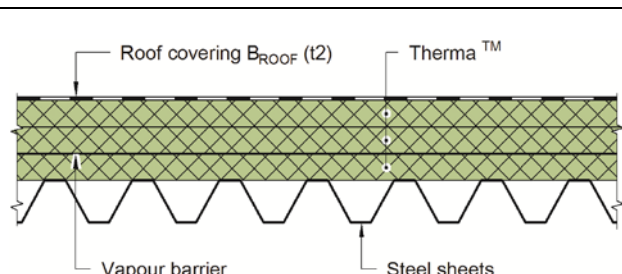
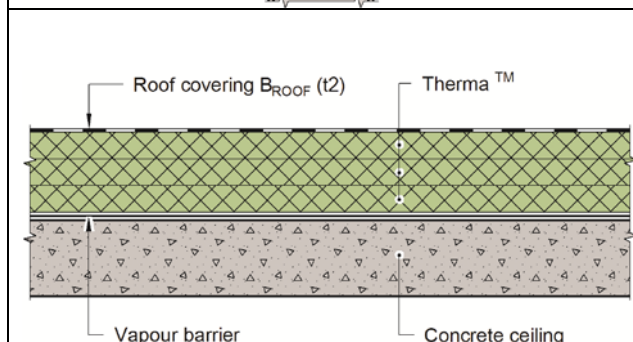
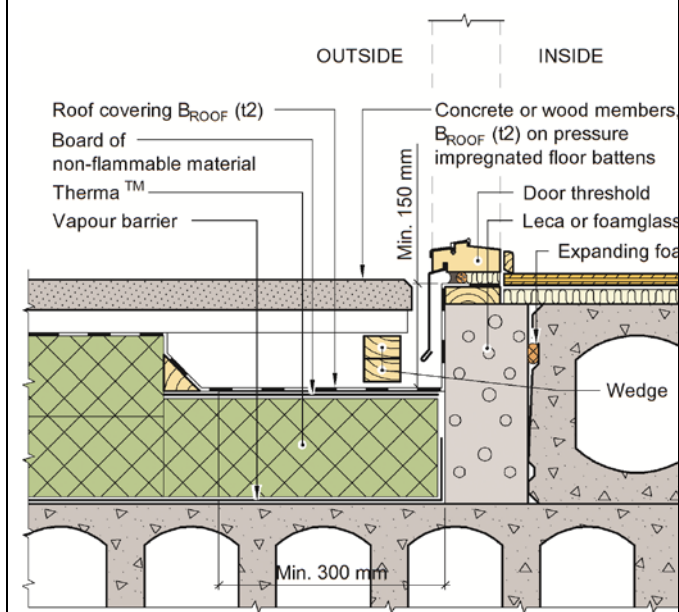

Fig. 2
Fig. 6
Fig. 11
Kingspan Therma™ insulation boards can be used as thermal insulation in compact roofs and terraces as shown in Fig. 2 – 12 and according to the conditions and principles stated in Section 6 Conditions of use.
The solutions with Kingspan Therma™ insulation boards on load-bearing steel sheets or concrete decks shown in Fig. 2 – 11 can be used if the load-bearing structure itself has the required fire resistance (R).
The solutions shown in Fig. 2 - 11 may also be used in roof constructions with unspecified fire resistance when the loadbearing construction is incombustible.
Figures 2 - 12 show examples of approved use of Kingspan Therma™ PIR insulation boards in compact roofs. For all solutions shown in the figures, the fire resistance and the load-bearing capacity during fire must be part of the structural design, including necessary protection of the load-bearing steel sheets (Fig. 2 - 5). Connections and roof penetrations must be made in a way that do not reduce the fire resistance of the roof.
cover the top side with non-combustible insulation (A2-s1,d0) or with sectioning of the roof surface into smaller areas of max. 400 m2 with non-combustible insulation (A2-s1,d0). See the examples shown in Fig. 2, 6 and 8.
A vapour barrier must be installed as shown in Fig. 2 – 12. Part of the thermal insulation may be installed on the inside of the vapour barrier. The insulation thickness on the underside of the vapour barrier should not exceed 1/4 of the total insulation thickness. See SINTEF Building Research Design Guide 525.207 *Compact roofs* for further information on installing the vapour barrier etc.
Construction details must follow the principles shown in Fig. 2 – 5 for profiled steel sheets underlay, in Fig. 6 – 10 for concrete underlays, and in Fig. 11 – 12 for terraces. For use in apartment buildings with covered terraces a specific fire safety design is required in order to prevent fire spread to neighbouring apartments.